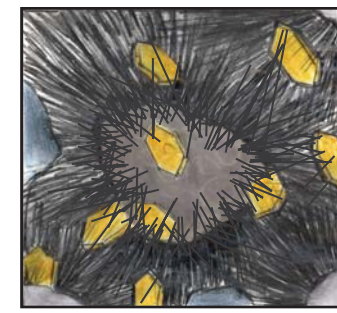

Figure 7. Hydration compounds during stage 5
- Belite reactions also produce C-S-H and CH, forming a solid mass (figure 7).